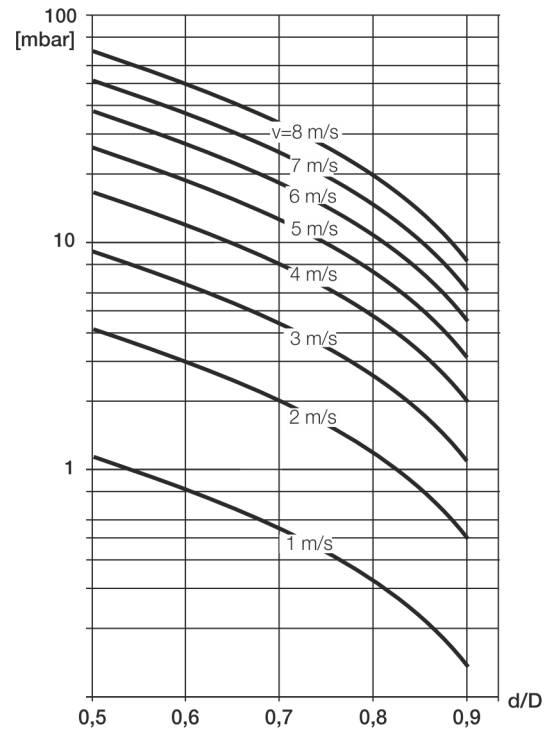

Figure 20: Flow rate nomogram for flange transition piece at $\alpha/2 = 8^\circ$
2. Determine the flow velocity based on the flow rate nomogram (Figure 20).
3. Read the pressure loss on the Y-axis in Figure 20.